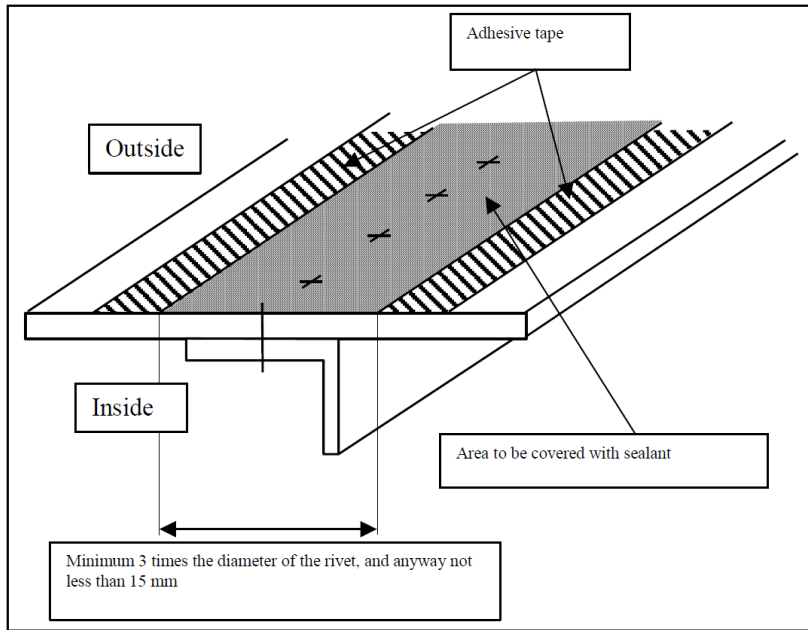
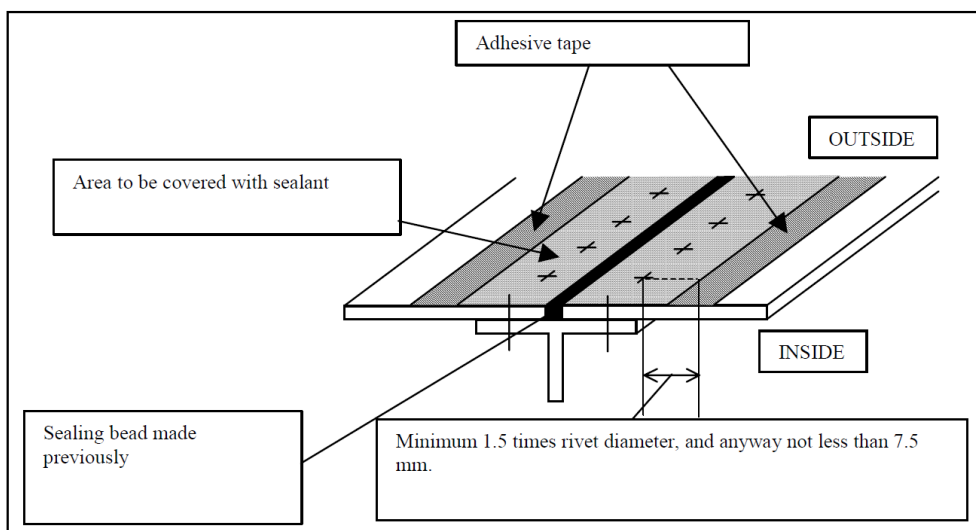

Fig. 15: brush sealing
Fig. 16: brush sealing
- d) Mask subject area with adhesive paper tape, positioning it so as to obtain a strip with a width equal to about 3 times the rivet diameters and however not less than 15.0 mm (see Fig. 15 and Fig. 16). The longitudinal axis of this so obtained strip shall fall on the installation axis of rivets themselves.